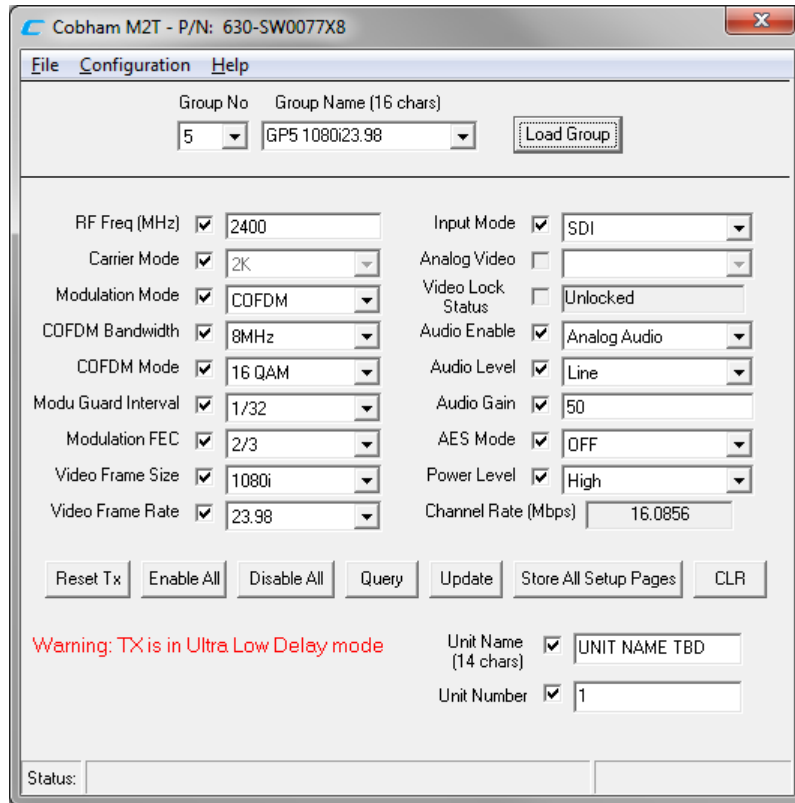
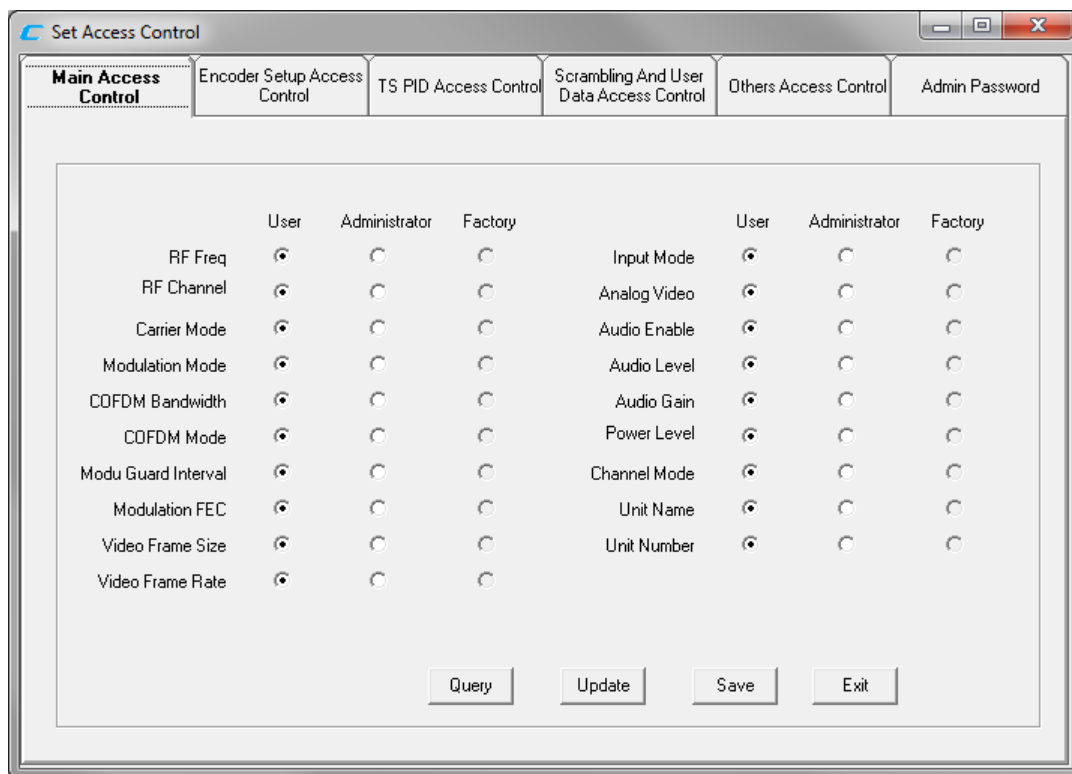

Figure 7 – M2T Configurator Main Screen
Figure 11 – Main Access Control
The Device Selector region allows the end user to select from various devices. Presently the existing selections are reserved for future devices. To start the application, select the ‘M2T’ check box in the Device Selector region. Once the box is selected, the opening screen as shown in Figure 7 appears. The M2T Configurator program contains function buttons and configurable settings. The following sections explain, in detail, the various options available.
1. The “Main Access Control” (see Figure 11). The parameters associated mostly with the video and RF setups of the transmitter are located under this tab (elements the user would normally see from the front page of the GUI as shown in Figure 7 above).
- **“Load Group” Button**: The data structure of the M2T is organized into “Groups” of selected fields. A Group contains the following fields (refer to Figure 7 above): **Carrier Mode, Modulation Mode, COFDM Bandwidth, COFDM mode, Guard Interval, Modulation FEC, Video Frame Size, Video Frame Rate and Input Mode.**
The fields as shown in Figure 7 of the main screen (above) are defined below in Table 2. The Table also indicates if the field is a read or a write field or both.